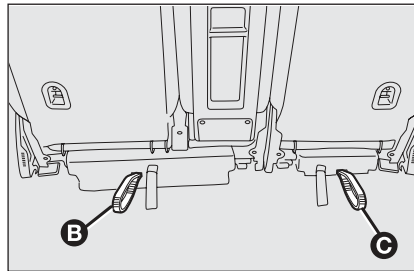

fig. 115
The rear seat is of the double-seat type. It is possible to move the rear seat backwards or forwards from the boot using handles **B** or **C**-fig. 115; pull the handle and at the same time move the seats forwards. This makes it possible to extend the boot capacity.
- make sure the seats are completely in backward position by means of handles **B** or **C**-fig. 115;
*Never pull tapes **B** or **C**-fig. 115 with seats in load position as they will slide vertically thus hindering seat repositioning.*